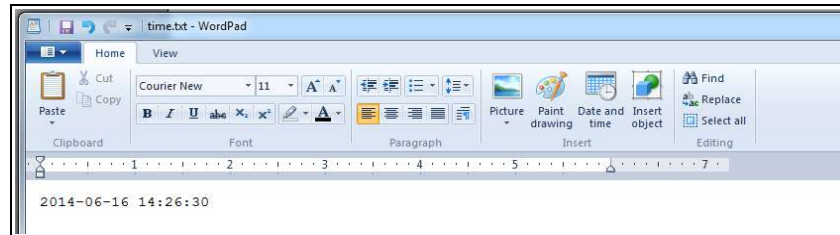

Figure 12: Example Time Entry in time.txt File
- Step 2: Enter on the first line the current date and time as “yyyy-MM-dd HH:mm:ss” in 24-hr format. Figure 12 provides an example time.txt file that will initialize the RTC to 2:26:30 pm June 16, 2014.